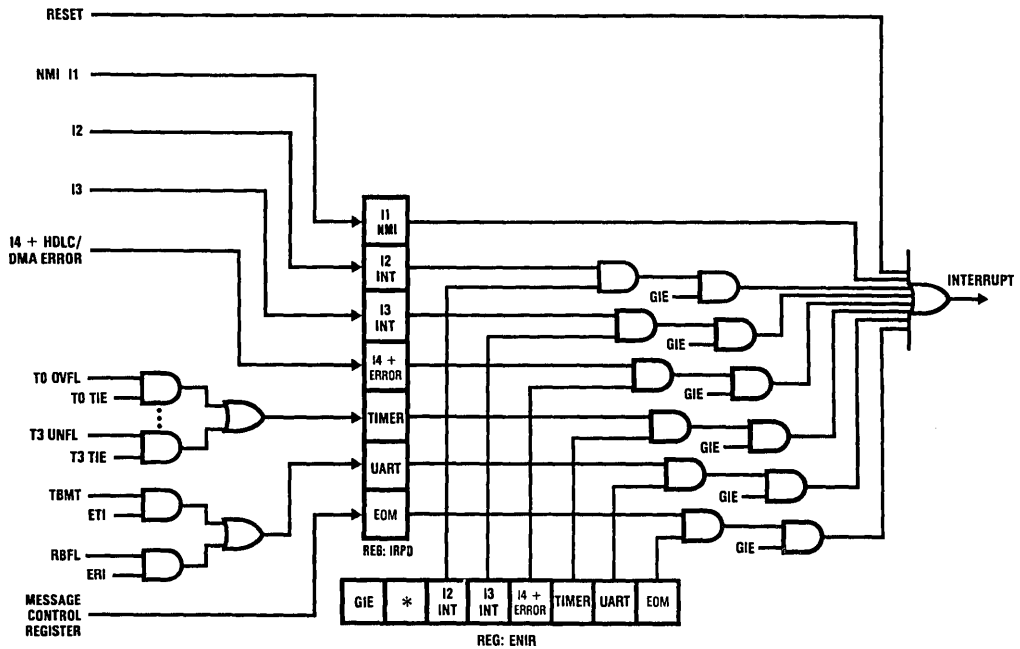

FIGURE 6. Interrupt Enable Logic
The Interrupt, once acknowledged, pushes the program counter (PC) onto the stack thus incrementing the stack pointer (SP) twice. The Global Interrupt Enable (GIE) bit is reset, thus disabling further interrupts. The program counter is loaded with the contents of the memory at the vector address and the processor resumes operation at this point. At the end of the interrupt service routine, the user does a RETI instruction to pop the stack, set the GIE bit and return to the main program. The GIE bit can be set in the interrupt service routine to nest interrupts if desired. *Figure 6* shows the Interrupt Enable Logic.